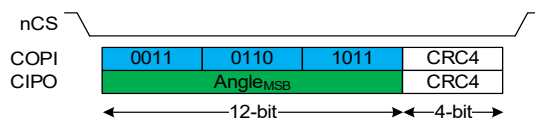

Figure 18: 16 Clock Cycles Read Angle
- 12-bit angle read with CRC4 in 16 clock cycles (Figure 18)